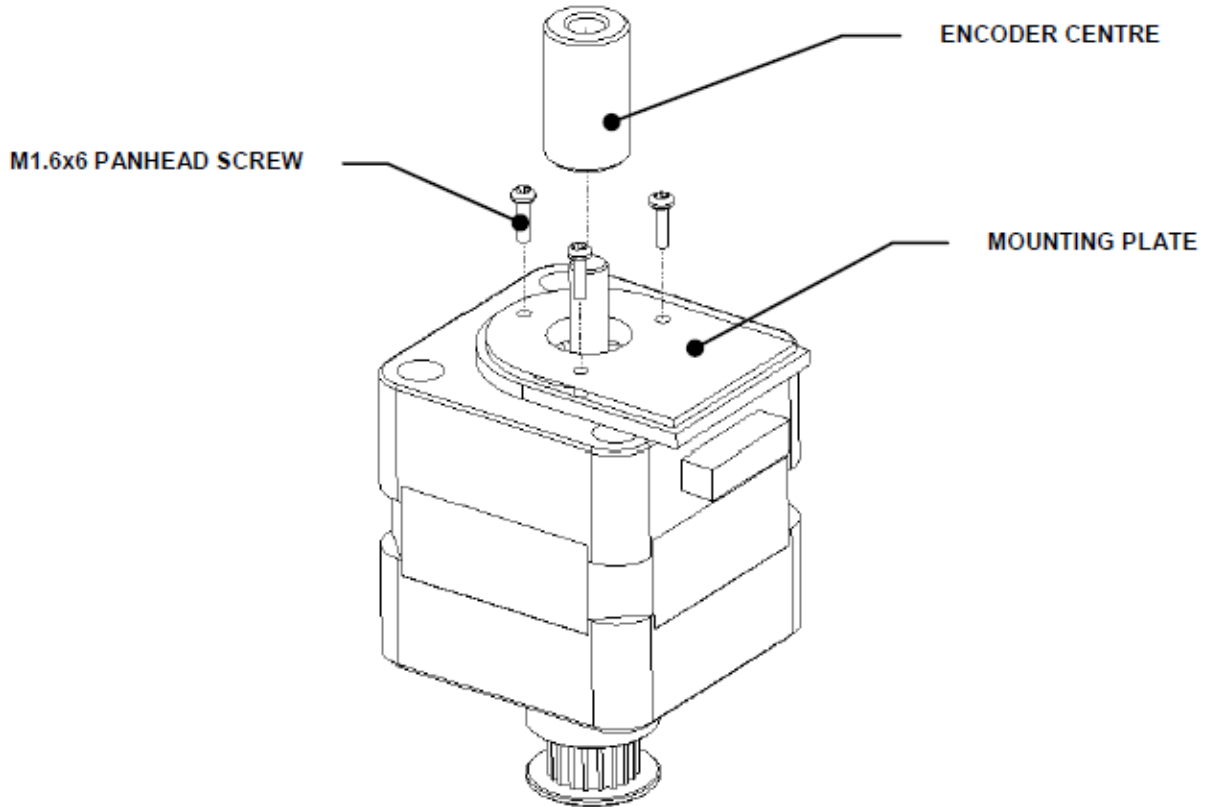

Figure U-10: Attaching the Encoder Mounting Plate
2. Attach the Mounting Plate, for the Encoder, to the motor with an Encoder Centre (DSXFIX015) using three M1.6X6 Pan Head Screws). Ensure that the mounting plate is centralized around the shaft (Figure U-10).